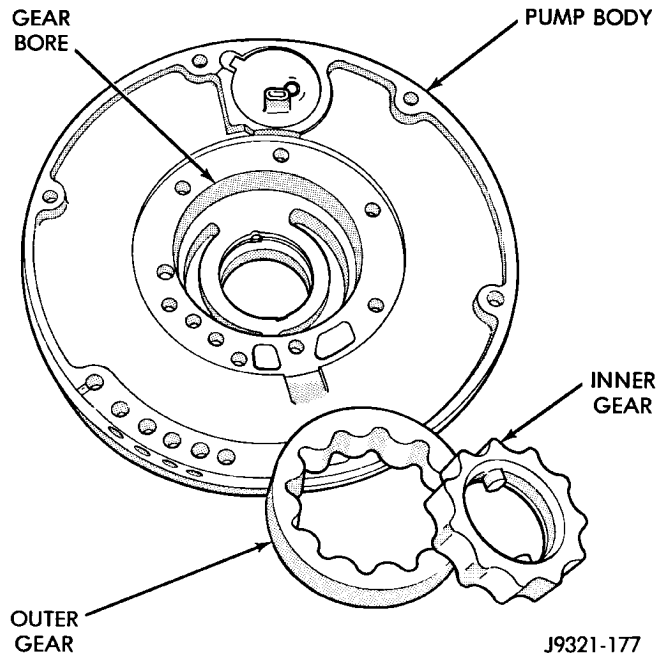

Fig. 159 Pump Gear
- (4) Remove pump inner and outer gears (Fig. 159).